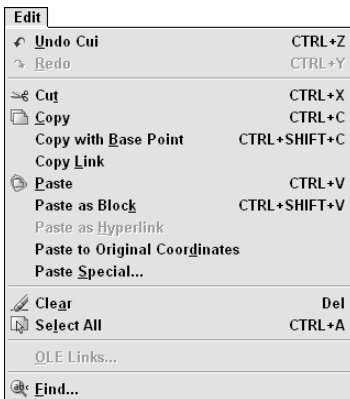
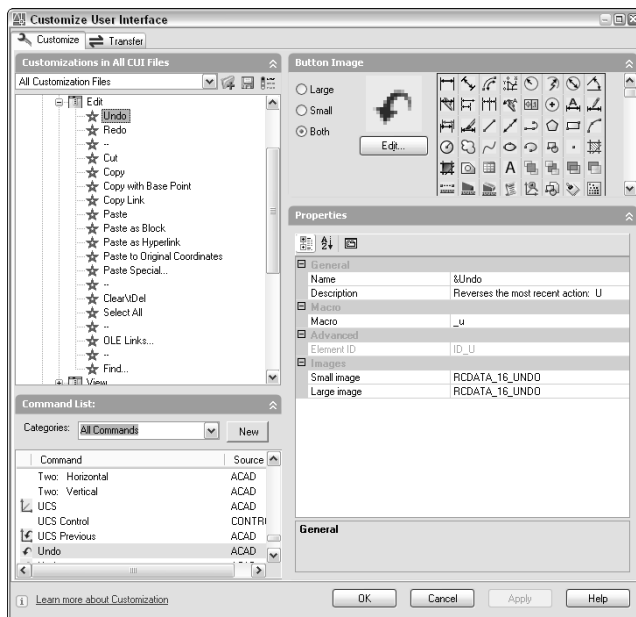

Figure 33-4: The Edit menu.
Figure 33-5: The Edit menu in the Customize User Interface dialog box.
The Menus section controls the drop-down (or pull-down) menus, which are the menus along the top of your screen. You can customize existing menus or add your own menu to the main customization file. You can also create a partial customization file with one or more menus. Figure 33-4 shows the Edit menu in AutoCAD.
Figure 33-5 shows the Edit menu in the Customize User Interface dialog box. Compare it to Figure 33-4. Look for the separator lines and underscored letters.
- ♦ To add a separator line below any item, right-click that item and choose **Add Separator** from the shortcut menu. You also see a separator line [- -] in several places in Figures 33-4 and 33-5. The separator helps to organize a menu into logical sections.